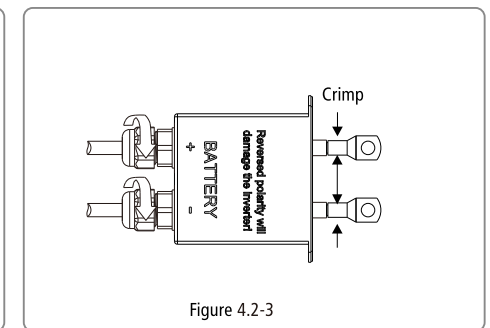
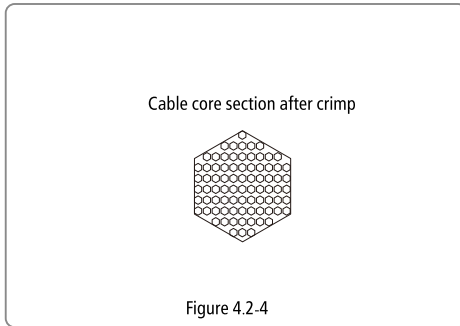

Figure 4.2-3
Figure 4.2-4
- (6) Compress the terminal head by professional tool and screw down screw cap slight. Refer to Figure 4.2-3, Figure 4.2-4.